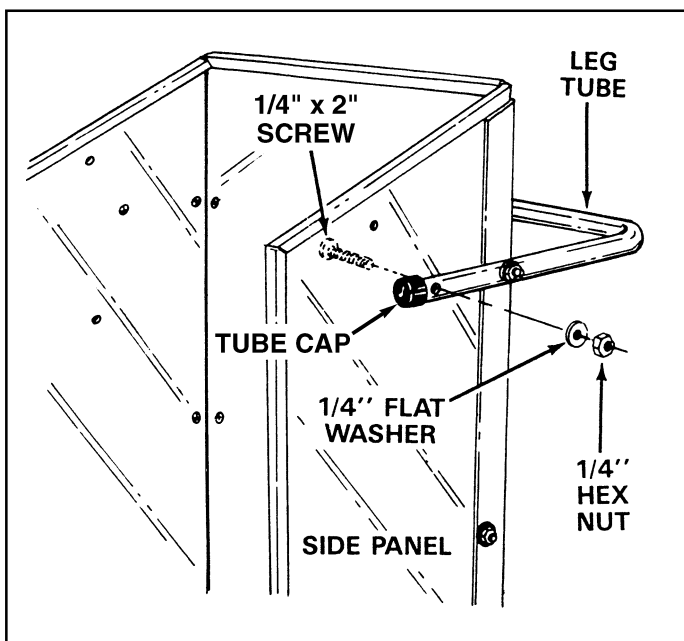

FIGURE 10
16. Stand cart up on its front end again. Place tube caps on leg tube and assemble the leg tube as shown in figure 10, using four 1/4" x 2" screws through side panels and leg tube. Secure with flat washers and hex nuts. See figure 10.